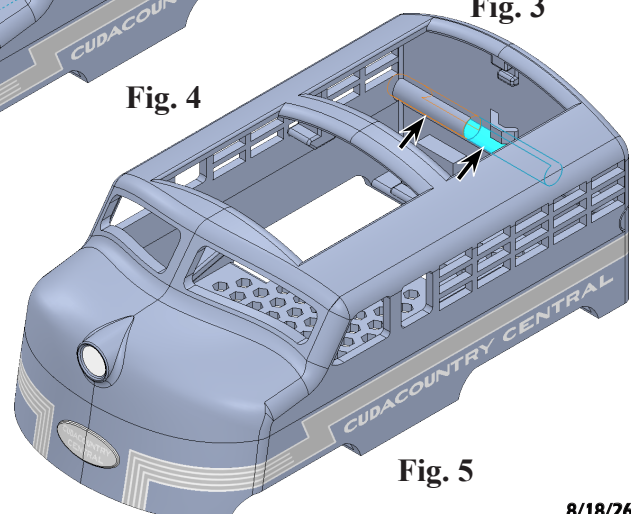

Fig. 5
Step 4. Click **cylindrical face of hinge on Hatch** and **cylindrical face of hinge on Chassis**, **Fig. 5**.